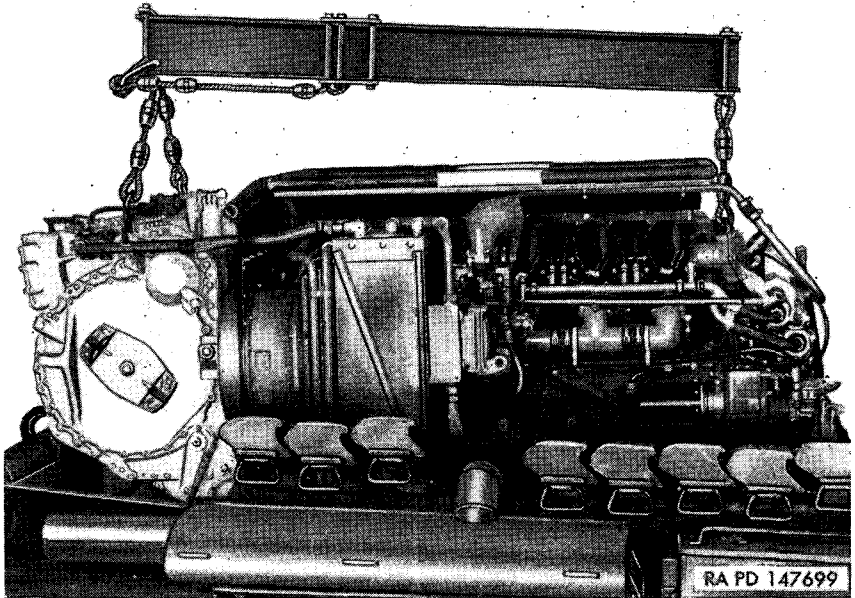

Figure 129. Removing power plant with sling 41-S-3832-46.
Carefully lift power plant out of tank (fig. 129). Check to see that accessories and parts are clear as the power plant is being moved upward. Proceed carefully, using a series of short lifts. As lifting progresses, swing unit back to clear protruding air cleaner pipes. If no transport stand is available, put blocks under right and left sides of transmission and under front engine mountings.
- (1) *Install engine and transmission sling and lift power plant into tank.* Install sling 41-S-3832-46 on power plant (fig. 129). Lift and ease the power plant into the engine compartment by a series of short drops, making sure each time that clearance is provided on all sides. Guides for front engine mountings are provided (fig. 133).